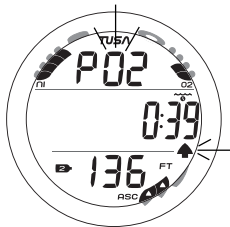
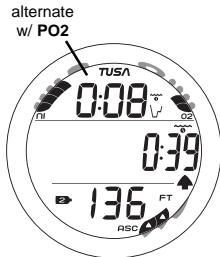

Fig. 79A - HIGH PO2 MAIN
Fig. 79B - HIGH PO2 MAIN
- > The graphic PO2 and Up Arrow icon will be displayed flashing on the Main screen (Fig. 79A) until the audible is silenced, then the graphic PO2 will alternate with NDC time (Fig. 79B) until PO2 decreases 0.2 (ATA) below the alarm Set Point.